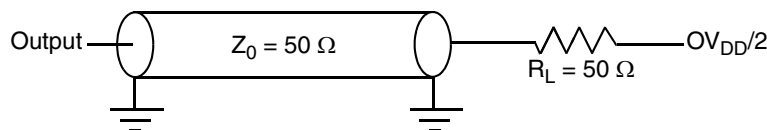

Figure 4. AC Test Load
Table 9 provides the processor bus AC timing specifications for the MPC7457 as defined in Figure 4 and Figure 5. Timing specifications for the L3 bus are provided in Section 5.2.3, “L3 Clock AC Specifications.”
1. All input specifications are measured from the midpoint of the signal in question to the midpoint of the rising edge of the input SYSCLK. All output specifications are measured from the midpoint of the rising edge of SYSCLK to the midpoint of the signal in question. All output timings assume a purely resistive 50- Ω load (see Figure 4). Input and output timings are measured at the pin; time-of-flight delays must be added for trace lengths, vias, and connectors in the system.
2. The symbology used for timing specifications herein follows the pattern of $t_{(\text{signal})(\text{state})(\text{reference})(\text{state})}$ for inputs and $t_{(\text{reference})(\text{state})(\text{signal})(\text{state})}$ for outputs. For example, t_{VKKH} symbolizes the time input signals (I) reach the valid state (V) relative to the SYSCLK reference (K) going to the high (H) state or input setup time. And $t_{\text{KH OV}}$ symbolizes the time from SYSCLK(K) going high (H) until outputs (O) are valid (V) or output valid time. Input hold time can be read as the time that the input signal (I) went invalid (X) with respect to the rising clock edge (KH) (note the position of the reference and its state for inputs) and output hold time can be read as the time from the rising edge (KH) until the output went invalid (OX).
Figure 4 provides the AC test load for the MPC7457.